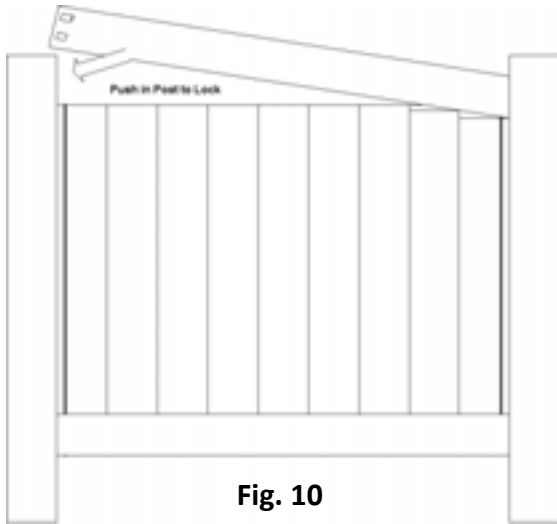

Fig. 10
**Step 4.** If the rail is going into a post, which will be filled with concrete, seal the ends of the rail with duct tape to prevent concrete from flowing into it. Place one end of the top rail into the post and work your way down the panel, inserting pickets into the top rail as you go (Fig. 10).